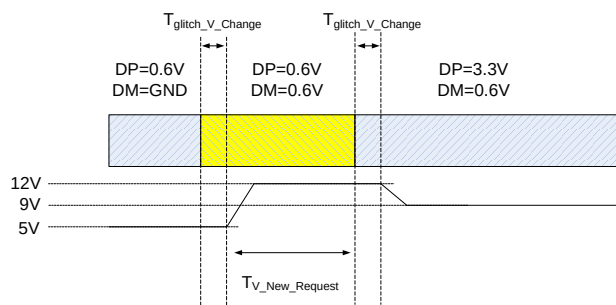

Figure 2: QC Mode Transition
If the downstream device of the MP5034 supports QC specification, the device can require a higher USB bus voltage than 5V by DM and DP communication. If a higher bus voltage is required, ADJ must be used. ADJ is connected to the feedback pin (FB) of an upstream voltage converter, typically. After the handshake, the MP5034 sinks a controlled current gradually via ADJ to adjust the  $V_{BUS}$  value to 9V, 12V, or another voltage (200mV step-by-step). Because of smart controller mode, only one ADJ pin can set a different high voltage, which meets the QC specification. The bus voltage transition is smooth and has no undershoot/overshoot (see Figure 2 and Table 1).